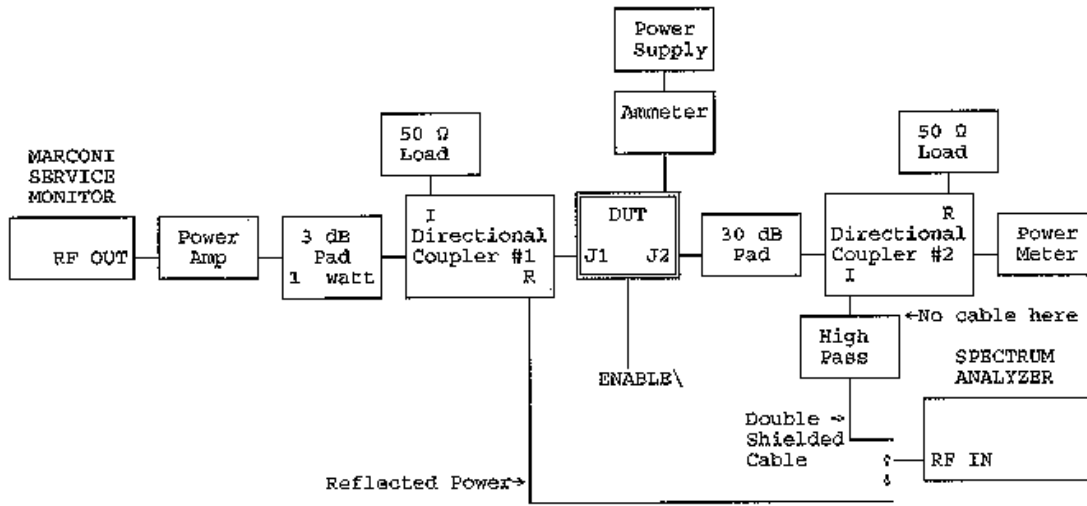

Figure 1
2. Setup the test equipment as shown in Figure 1.